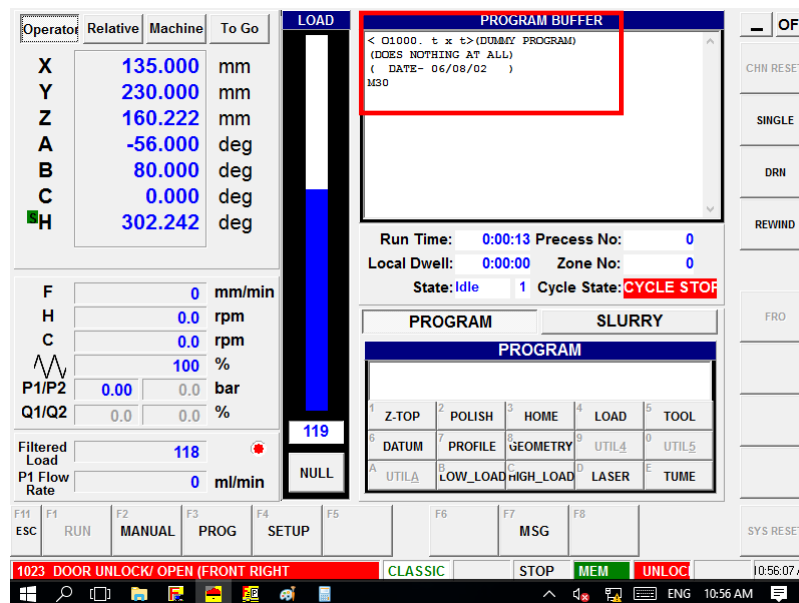

Figure 37 - Program Buffer window
7. Go back to the Zeeko GUI main screen and you will see the duplicate program displayed in the “PROGRAM BUFFER” window. See (Figure 37 - Program Buffer window).
8. Press the “Home” button to clear the program and repeat the above steps to transfer the program. See (Figure 37 - Program Buffer window).